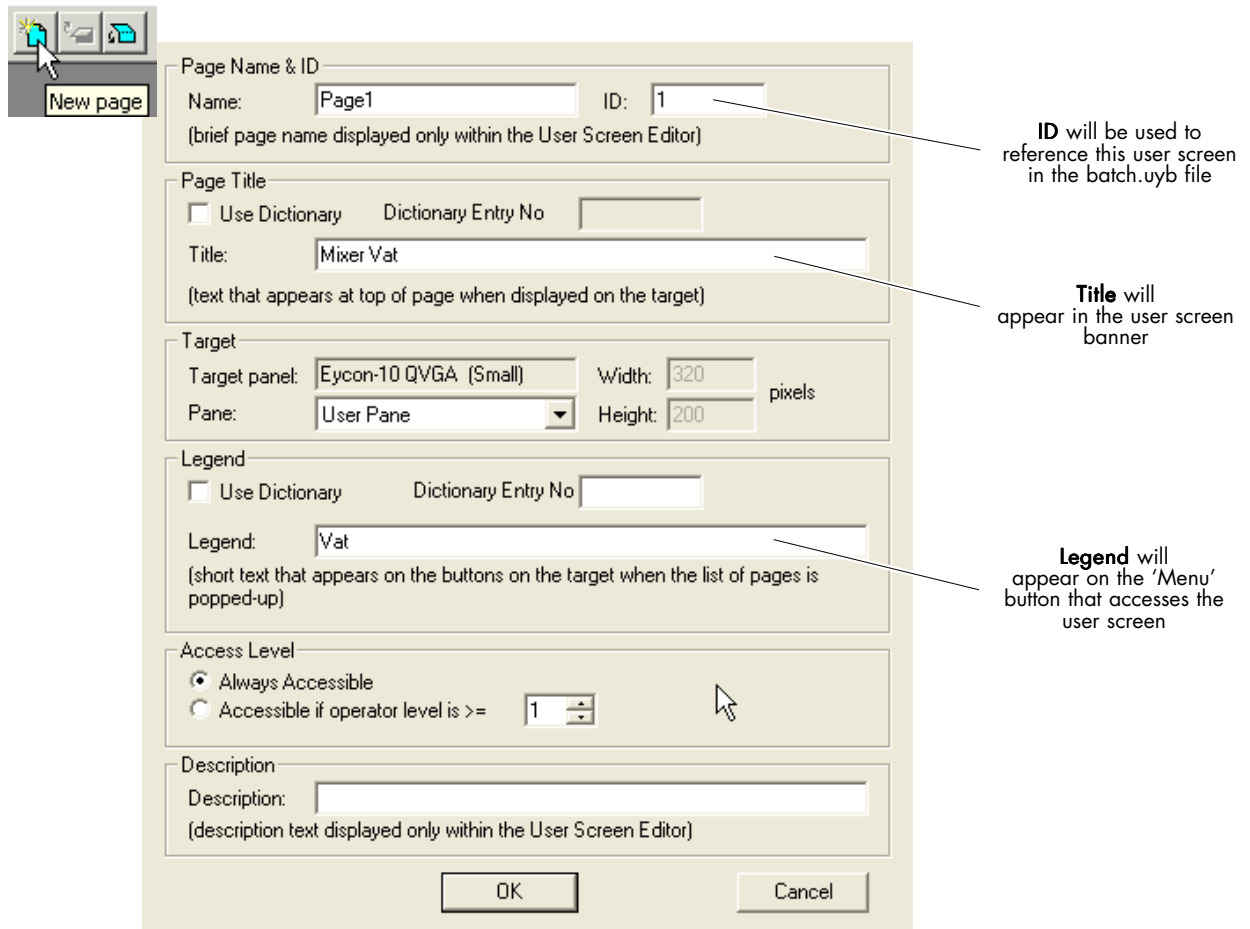

Figure 7-3 Accessing and filling in the 'New Page' dialog
- 4 Click the 'New Page' icon  to pop up a **New Page** dialog. Edit the dialog fields according to Figure 7-3, most of the fields are left at their defaults. **OK** your edits. A blank '**Page1**' window appears, ready for building the user screen.